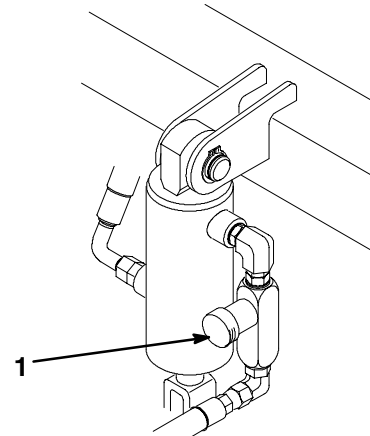

Figure 42
The machine's cutting unit lift/drop circuit is equipped with a flow control valve (Fig. 42). This valve is preset at the factory at approximately 3 turns open, but an adjustment may be required to compensate for differences in hydraulic oil temperatures, mowing speeds, etc. If an adjustment is required, proceed as follows:
1. Raise the seat and locate the flow control valve (Fig. 42) mounted to the hydraulic cylinder for the center pull frame.